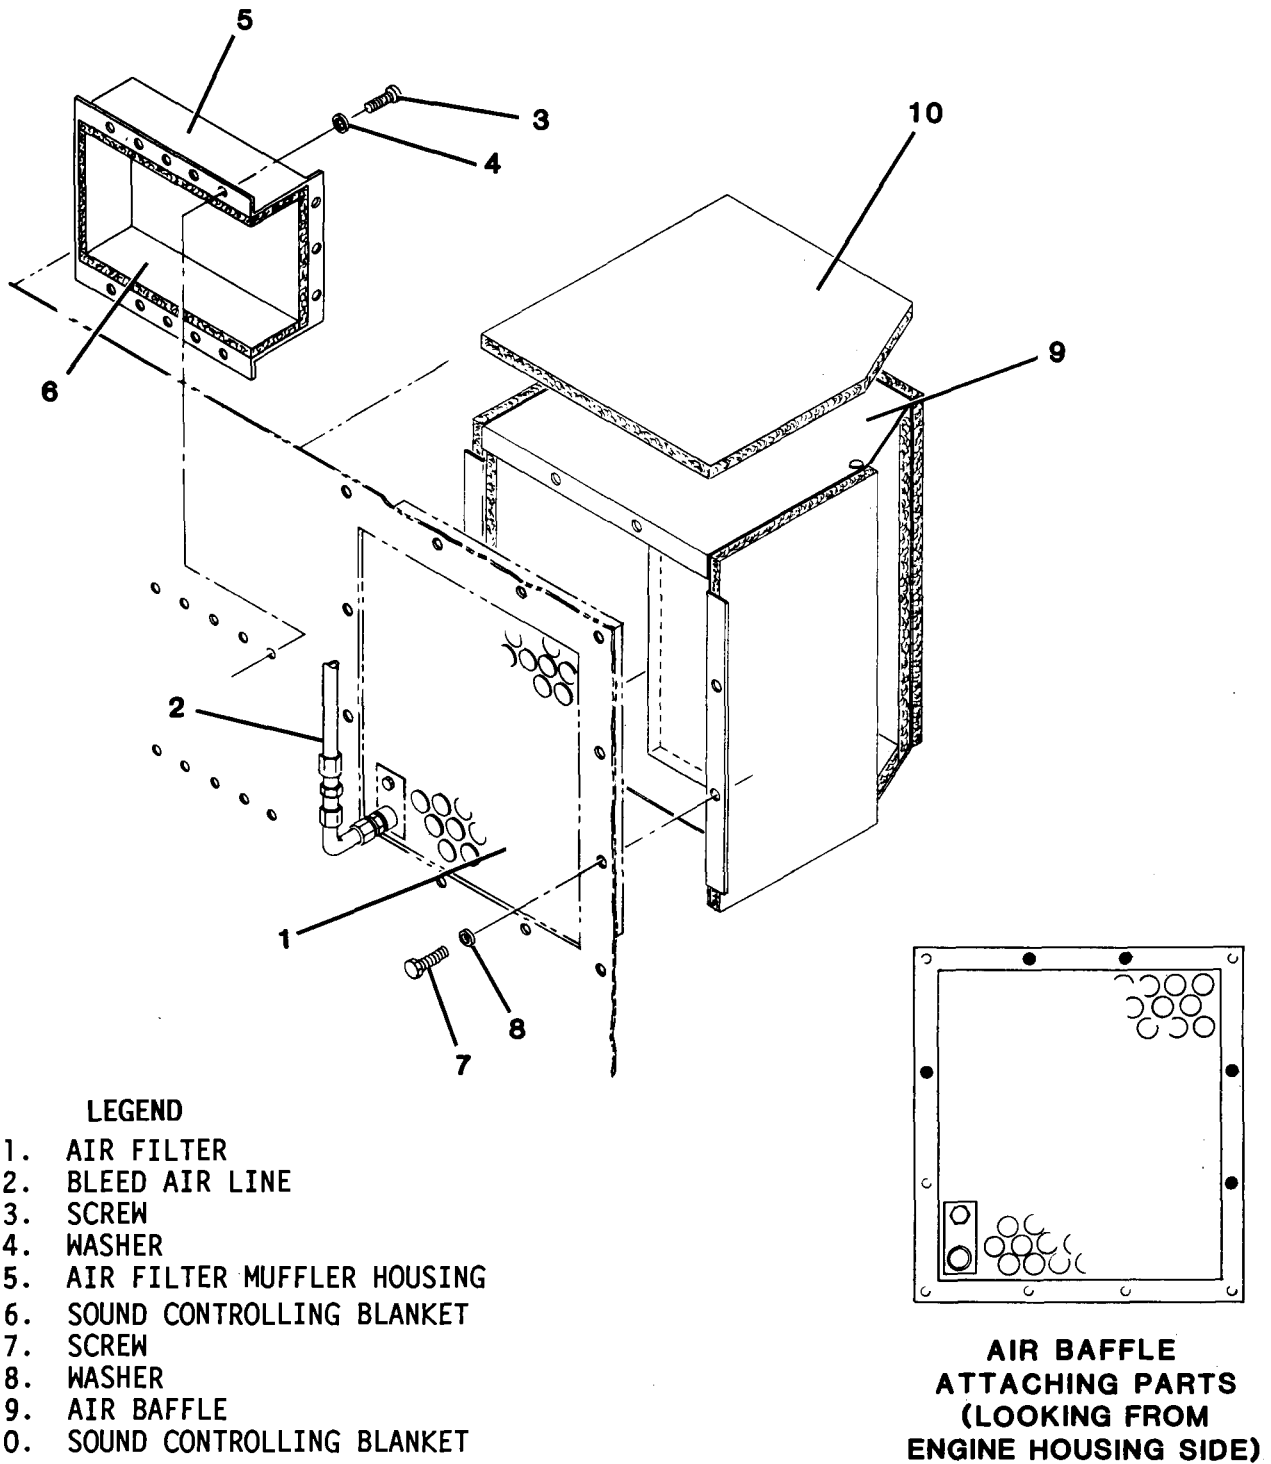

Figure 4-12. Air Filter, Air Filter Muffler Housing,
4-20. AIR FILTER. Maintenance of the air filter (1, figure 4-12) consists of Inspection.
Maintenance of the air filter muffler housing (5, figure 4-12) consists of inspection, replacement, and repair.
4-22. AIR BAFFLE. Maintenance of the air baffle (9, figure 4-12) consists of inspection, replacement, and repair.
(1) Disconnect battery cable plug connector from battery.
(2) Remove power cable from cable support.
(3) Open inlet air housing access door. Secure in open position.
(4) Loosen turnlock fasteners and remove engine housing access cover.
(5) Refer to inset in figure 4-12 and note location of air baffle attaching parts.
(6) Remove screws (7) and washers (8) that secure air baffle (9). Carefully remove air baffle from inlet air housing.
b. Inspection. Inspect air baffle for damage. Ensure that sound controlling blanket (10) is securely in place and undamaged.